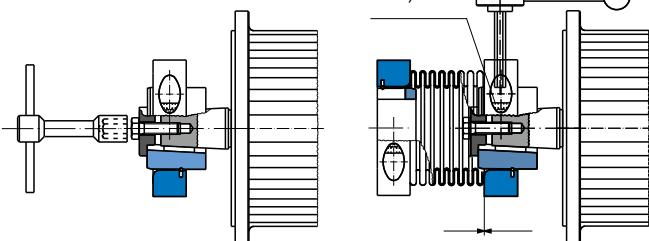
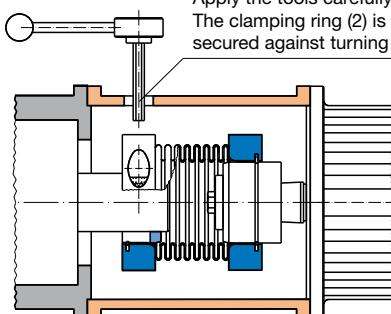

Fig. 7
Fig. 8
– see also Fig. 6 and Fig. 8
- Push the entire coupling over the whole length of the reducing bushing (5) onto a shaft.
– see also Fig. 7 and Fig. 8
- Remove the clamping ring (2) with the protruding reducing bushing with tapered bore (6) from the coupling.
- Push the reducing bushing with tapered bore (6) onto the conical shaft.
- Secure the reducing bushing with tapered bore (6) using a nut or screw with press cover.
- Push the rest of the coupling with the open steel bellows side up to its limit between the clamping ring (2) and reducing bushing with tapered bore (6).
- Tighten the cap screw (4). The screw tightening torque (see Technical Data, page 4) must be observed.
- Push the second shaft over the entire length of the reducing bushing (5) into the coupling.